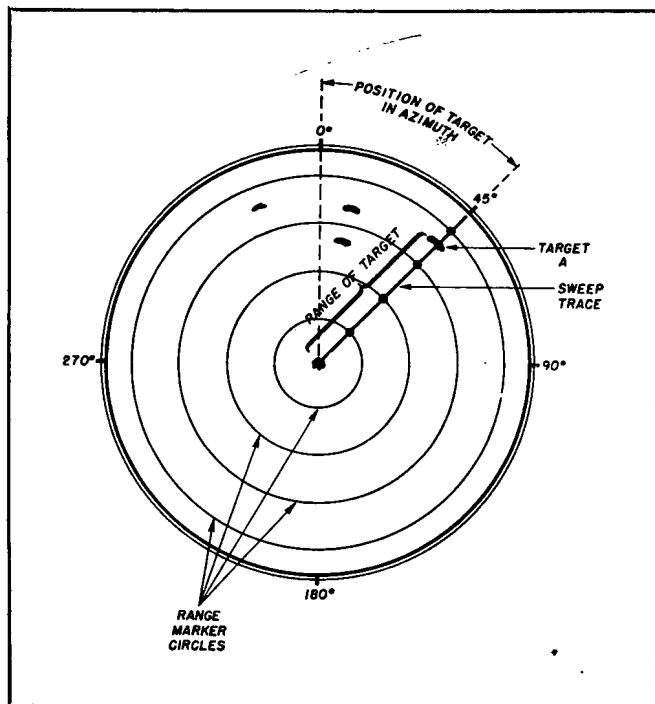

Figure 4-19. Targets and Range Markers on PPI Scope
(3) Echoes will appear on the face of the PPI tube in the form of round dots, if the indicator is being used in conjunction with a micro-wave radar equipment. When used in conjunction with a longer-wave set, the echo has an elongated appearance. This is due to the beam width of the ship's radar antenna, which is usually much narrower on the micro-wave equipments. The narrower beam means that the dot appears for a very few degrees only during the rotation of the antenna. When the beam is wider, as on the longer-range equipments, the dot appears for a larger number of degrees. It thus traces out the elongated form around the circumference which represents the target's range, as shown in Fig. 4-19. To determine the range of a target on the face of the PPI tube, turn up the MARKERS switch until the four range marker rings shown in Fig. 4-19 appear. If the antenna is not rotating, four range marker dots appear. On the four-mile range, these markers are 1 mile apart. On the twenty-mile range they are 5 miles apart. They will be 20 miles apart on the 80-mile range, and 50 miles apart on the 200-mile range.